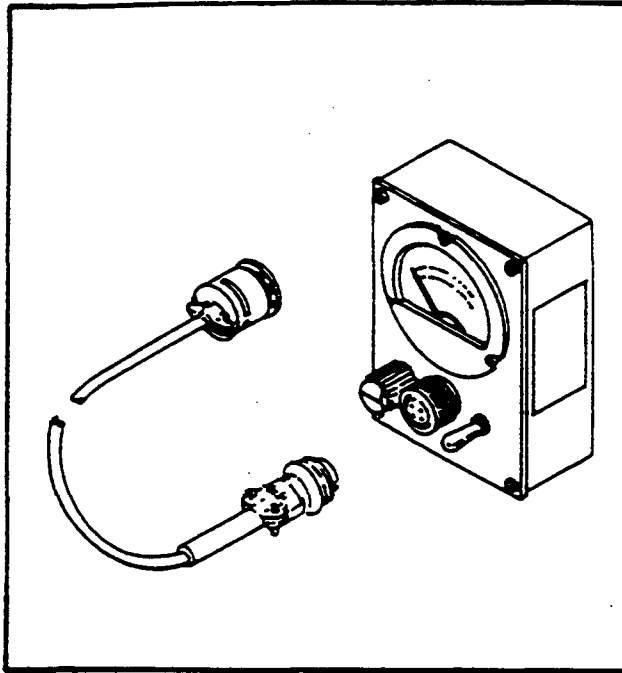
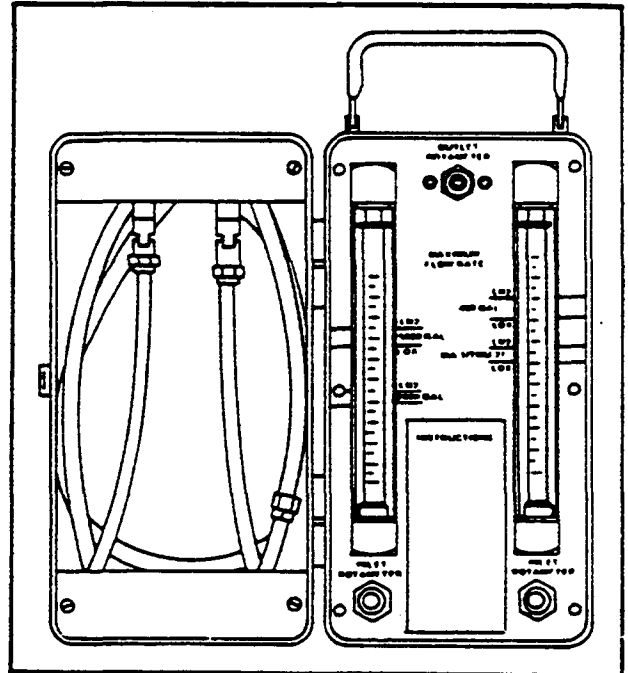

Figure 2-1. Vacuum Gauge
Figure 2-2. Dual Efficiency Meter
recommended (Figure 2-1, Figure 2-2) are approved tools and test equipment if available. However, equivalent items may be used if recommended items are not available.
d. **Checking Vacuum.** Checking the Tank vacuum within the annular space requires a vacuum gauge (Refer to Table 2-1 and See Figure 2-1). Procedures for checking the Tank vacuum are found in section V (Refer to paragraph 5-5.4 and See Figure 5-4).